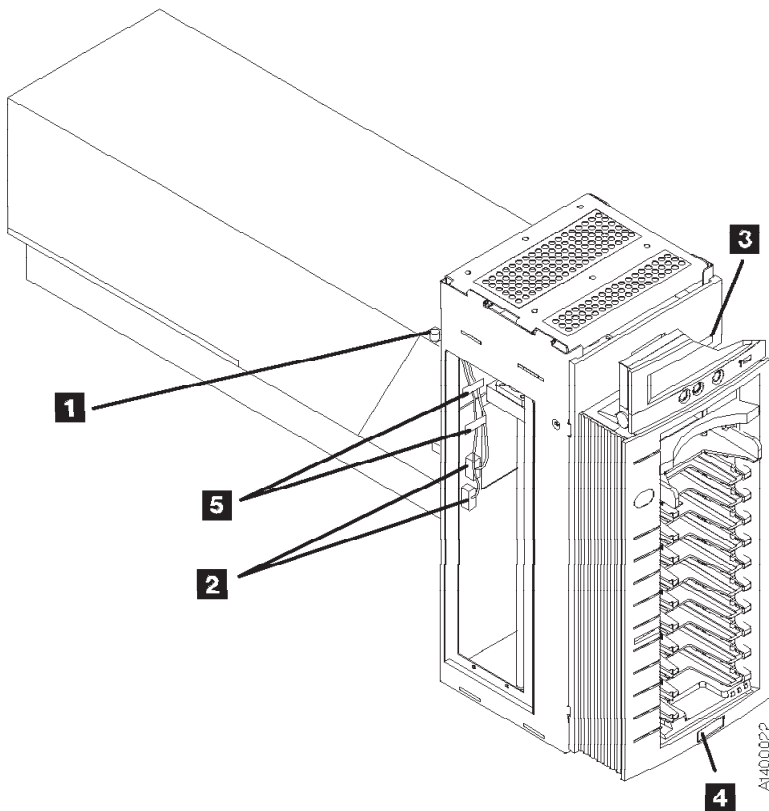

Figure 8-12. ACF Thumbscrew and Cables
- \_\_\_ 5. See Figure 8-12 on page 8-20. Tighten the thumbscrew **1** on the upper left tab of the ACF into the deck enclosure.
- \_\_\_ 7. See Figure 8-12 on page 8-20. Connect the two cable connectors **2** from the ACF to the drive.